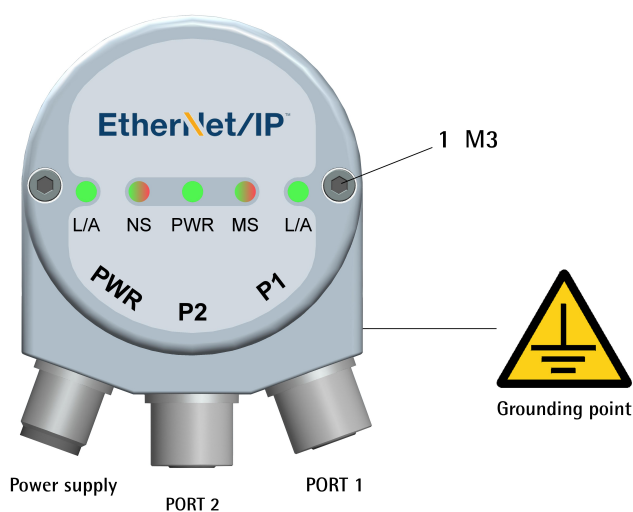

Figure 1 – Connectors and diagnostic LEDs
4.2 PWR Power supply connector (Figure 1)
4.3 P1 Port 1 and P2 Port 2 connectors (Figure 1)
To minimize noise connect properly the shield and/or the connector housing and/or the frame to ground. Connect properly the cable shield to ground on user's side. Lika's EC- pre-assembled cables are fitted with shield connection to the connector ring nut in order to allow grounding through the body of the device. Lika's E- connectors have a plastic gland, thus grounding is not possible. If metal connectors are used, connect the cable shield properly as recommended by the manufacturer. Anyway make sure that ground is not affected by noise. It is recommended to provide the ground connection as close as possible to the device. We suggest using the ground point provided in the cap (see Figure 1, use 1 TCEI M3 x 6 cylindrical head screw with 2 tooth lock washers).